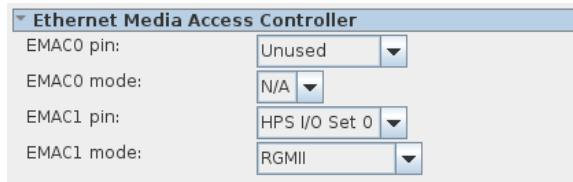

Figure 9-8. Ethernet MAC configuration
- Configure “EMAC1 pin” to “HPS I/O Set 0” and the “EMAC 1 mode” to “RGMII”, as shown in Figure 9-8.